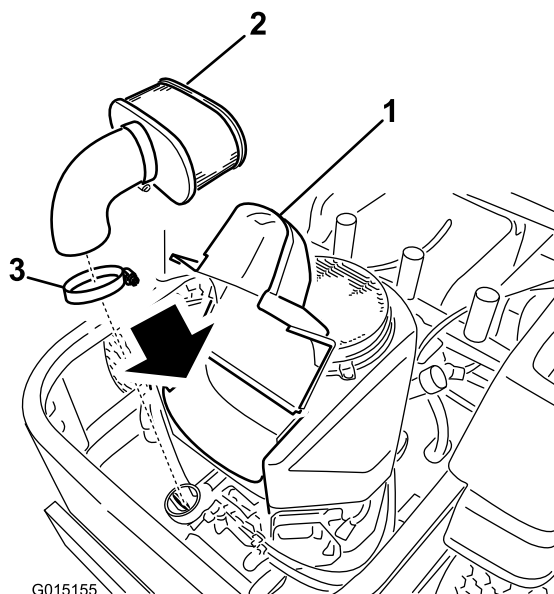

Figure 33
3. Clean around the air-cleaner cover to prevent dirt from getting into the engine and causing damage and lift the cover and remove the hose clamp securing the air cleaner assembly to the engine (Figure 33).
4. Loosen the hose clamp and remove the paper element (Figure 33).